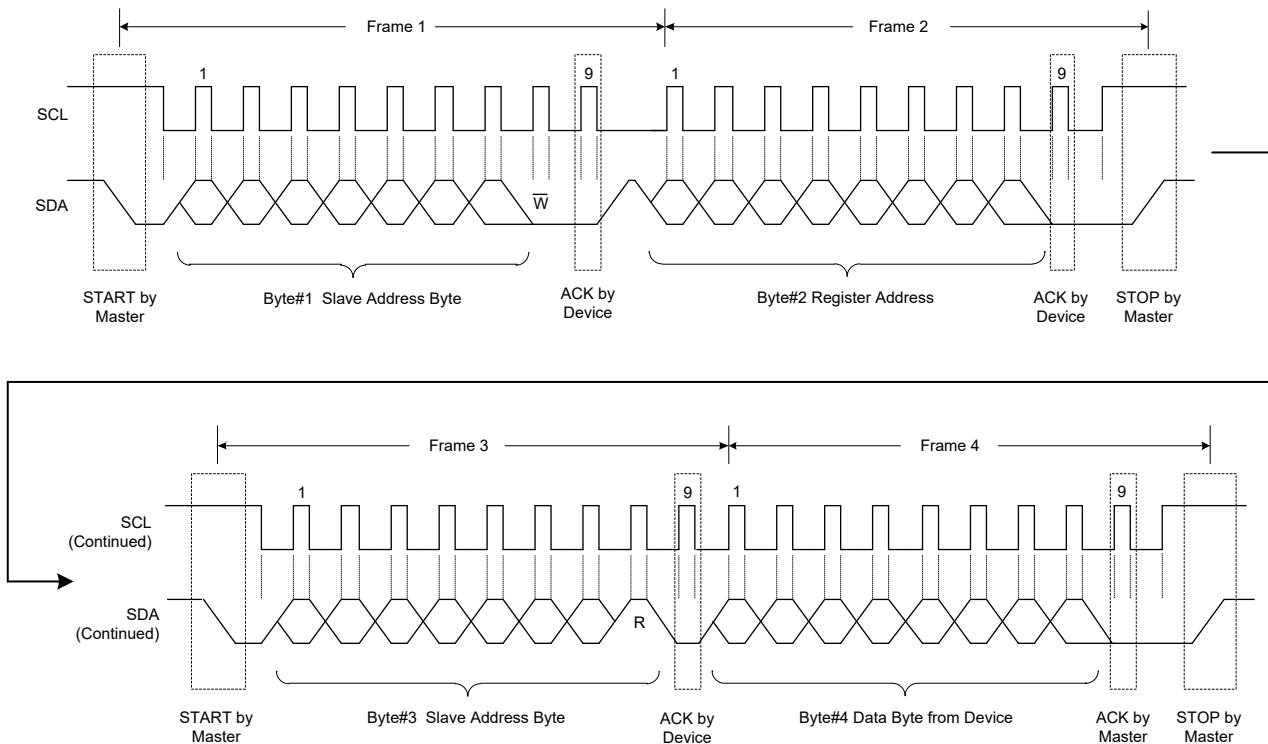

Figure 19. The Format of a READ from a Device Register in the Standard, Fast and Fast-Plus Modes
**READ:** If the sequence is a single read and the master wants to read the content of the addressed register in the slave, the master first sends a new START (repeated START) before the third byte because the direction of read/write needs to be changed from write to read. Therefore, the third byte is still the slave address (7 bits) and an 8th data-direction bit will be R/W = 1. The slave will send an ACK bit followed by the content of the register as the fourth byte. Master may reply with an ACK or NCK and then issues a STOP condition. The format of a single read from a device register is shown in the Figure 19. Reading data from a register address that is not listed will be 00h.